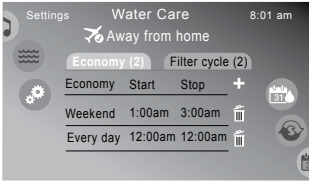

Figure 12.1c
1. Tap **Economy (2)** to program cycles, Figure 12.1c.